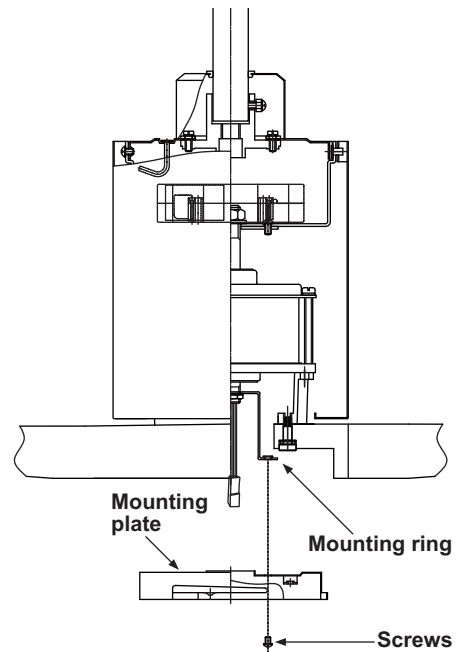

Figure 16
Step 2. Place the key holes on the mounting plate over the 2 screws previously loosened from the mounting ring, turn mounting plate until it locks in place at the narrow section of the key holes. Secure by tightening the 2 screws previously loosened and the one previously removed. (Fig. 16)